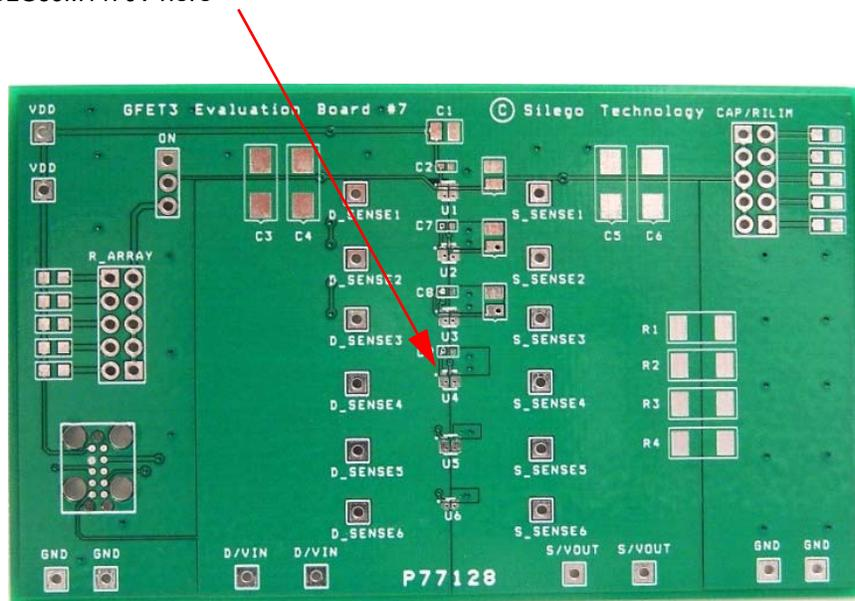

Figure 1. SLG59M1470V Evaluation Board
2. Since the D and S pins dissipate most of the heat generated during high-load current operation, it is highly recommended to make power traces as short, direct, and wide as possible. A good practice is to make power traces with absolute minimum widths of 15 mils (0.381 mm) per Ampere. A representative layout, shown in Figure 1, illustrates proper techniques for heat to transfer as efficiently as possible out of the device;
A GFET3 Evaluation Board for SLG59M1470V is designed according to the statements above and is illustrated on Figure 1. Please note that evaluation board has D_Sense and S_Sense pads. They cannot carry high currents and dedicated only for RDS_{ON} evaluation.